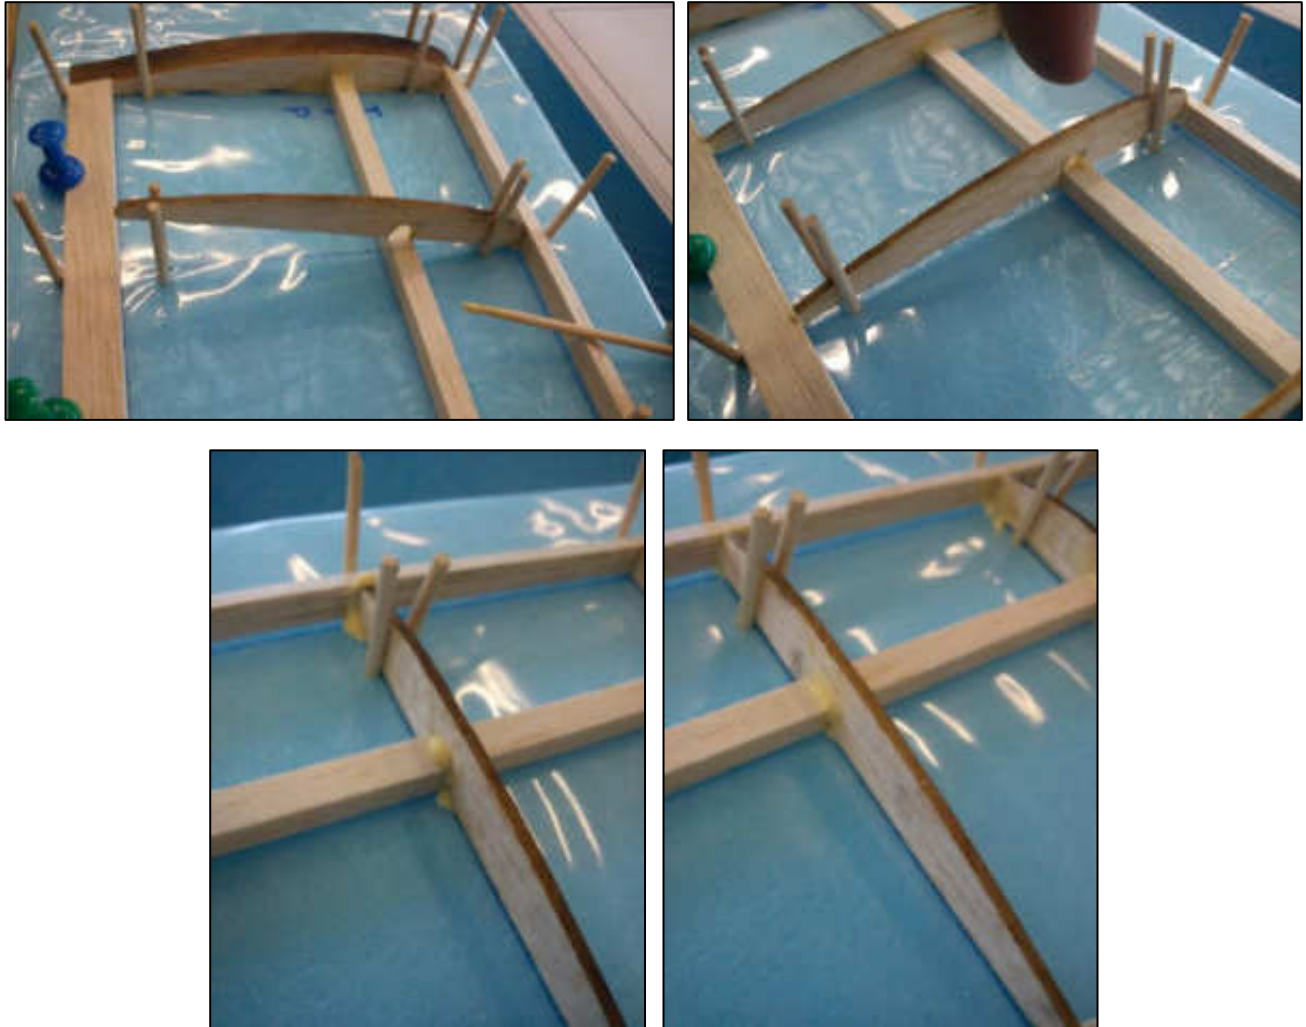

Figure 5: Glue each rib to the other wing components.
5. Glue the ribs to the leading and trailing edges and the spar. Sequentially lift each rib, apply the glue to the relevant edges, then replace. You can use a cocktail stick to apply the glue. Ensure that the glue is smooth in the corners, Figure 5.